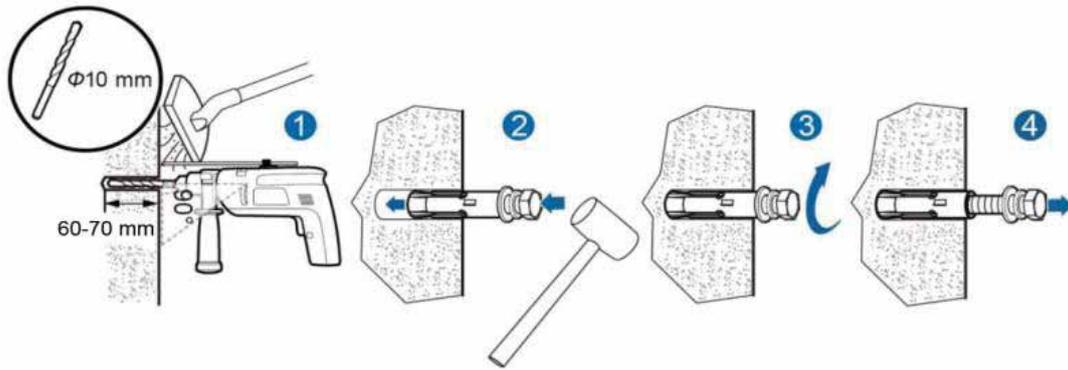

Figure 4.10 Install expansion bolts
- (3) Fix the expansion bolts to the 4/6 installation holes with hammer, as shown in Figure 4.10.